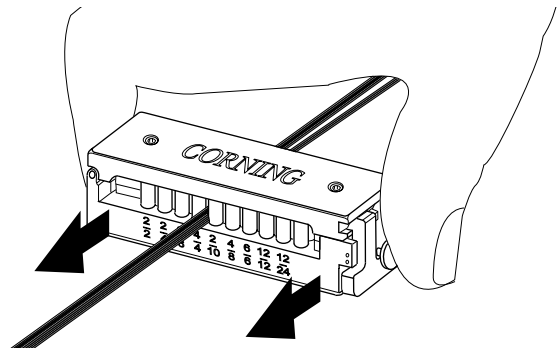

Figure 13
- Step 3:** Push in and hold the slider button on the end of the tool as you move the tool along the ribbon from the end mark to either the other end mark (splits less than 0.5 meter), or to the 0.5-meter mark, as appropriate (Figure 13).